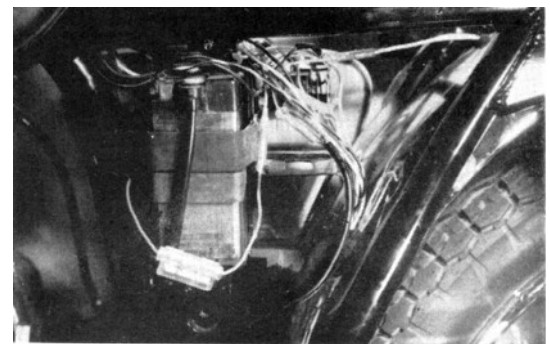

Fig. 2 Disconnecting wires
2. Disconnect main switch wires and A.C. Generator wires from the terminals. (Fig. 2)